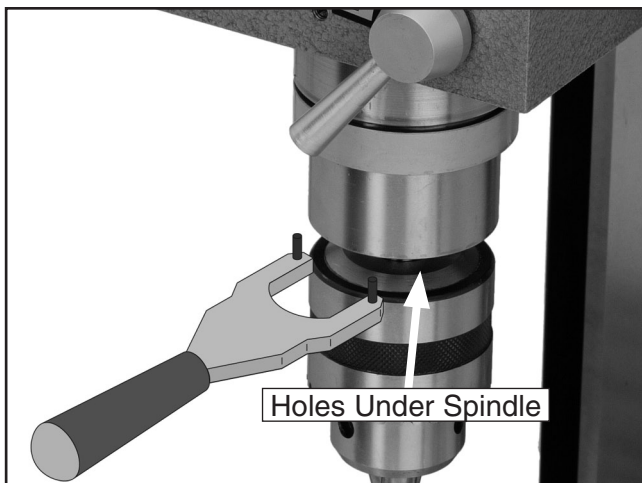

Figure 8. Spindle holes.
4. Insert the pin spanner into the two holes at the bottom of the spindle. This will keep the spindle from turning, and allow you to loosen the drawbar (see **Figure 8**).